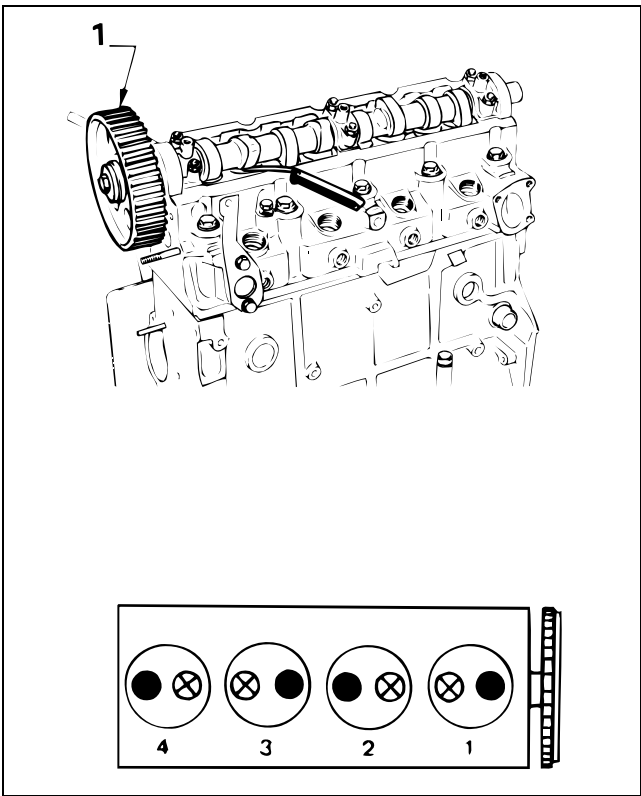

Figure 85
- 1. Install the camshaft gear. (Fig. 85, Item 1).